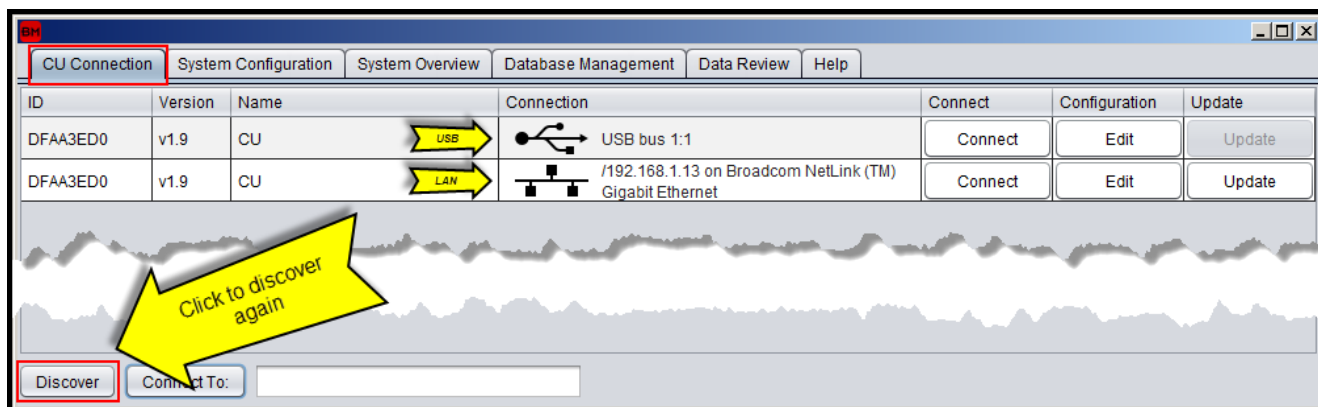

Figure 25: CU connection discovered devices
2. At start-up the CUs connected to the computer are discovered and shown in the “**CU connection**” tab as shown on Figure 25. Ethernet discovery uses broadcast packets and therefore only CUs present on the same network (LAN) are automatically discovered. If the CU is not discovered automatically user should check the USB and / or LAN connection and click on the “**Discover**” button on the bottom of the page. On Figure 25 the same CU is discovered twice because it is connected on same time with USB and LAN to the same PC.